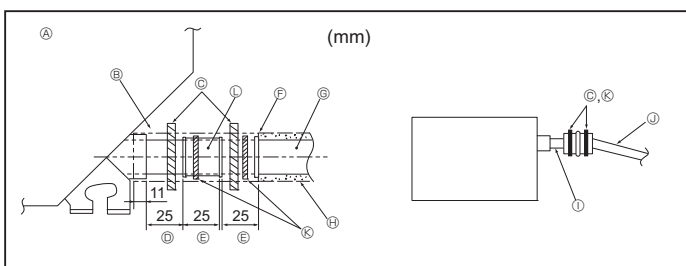

Fig. 3-5
- ① O. D. ø38 PVC TUBE for grouped piping. (9 mm or more insulation)
1. Connect the drain socket (supplied with the unit) to the drain port. (Fig. 3-5) (Fix the tube using PVC adhesive then secure it with a band.)